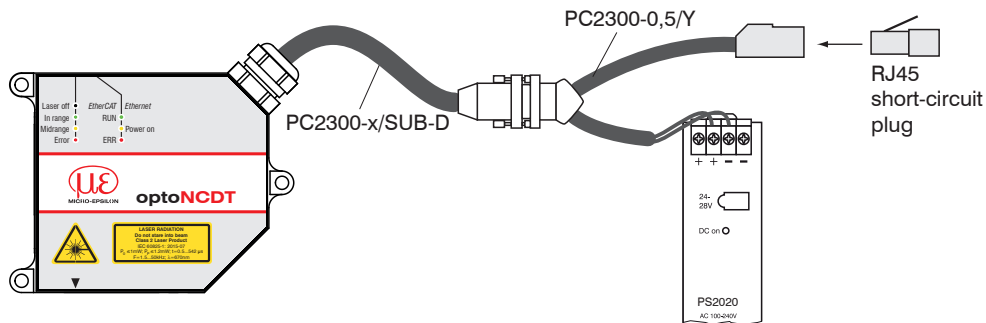

Fig. 58 Default setting with a RJ45 short-circuit plug
- ➡ Connect the RJ45 short-circuit plug on the PC2300-0,5/Y cable, see Fig. 58.